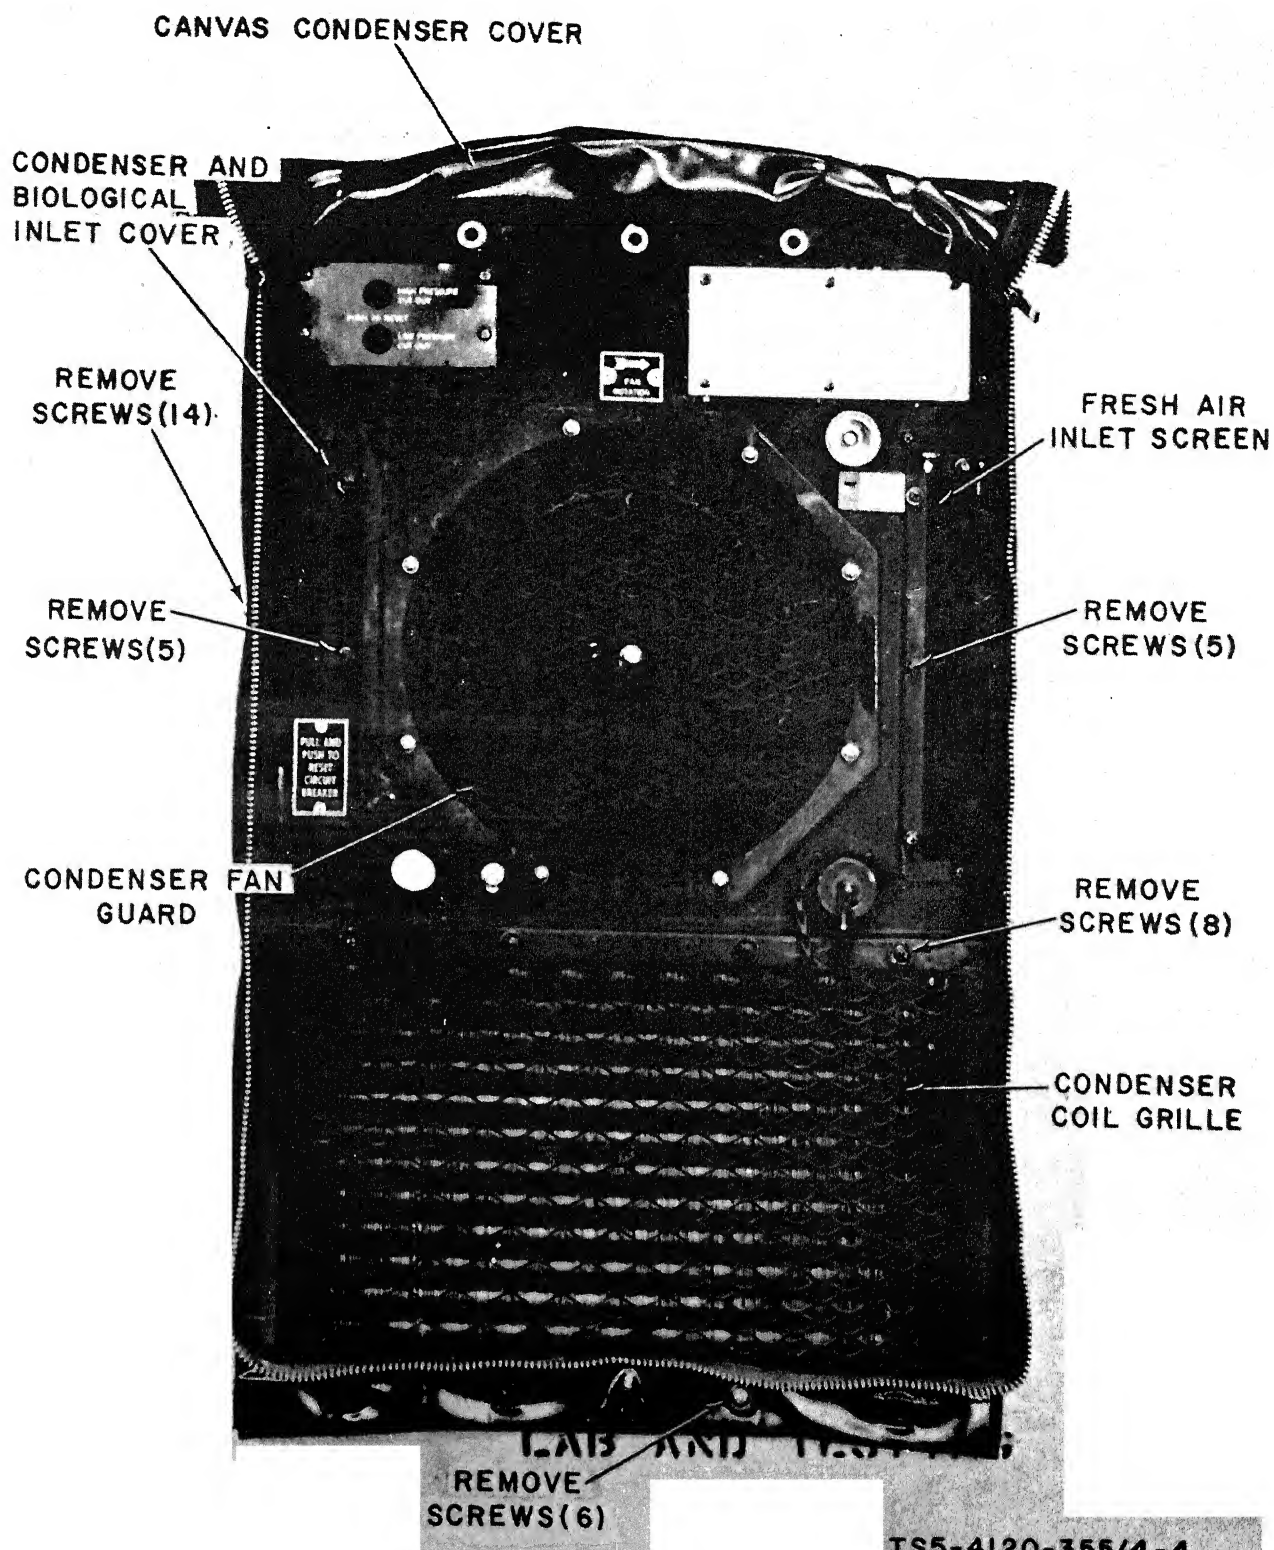

Figure 4-4. Fresh Air Inlet Screen, Chemical and Biological Inlet Cover, Condenser Fan Guard, and Condenser Coil Grille, Removal and Installation.
NOTE: Remove discharge and intake grilles and filter, if unit is to be used with ducts carrying air to and from the conditioned space. Install grilles and filter in the duct. Remove the chemical and biological (CB) inlet cover (fig. 4-4) if a CB filter is to attached to the unit.
- a. **Removal.** Refer to figure 4-4. Remove fresh air inlet screen, CB inlet cover, condenser fan guard, and condenser coil grille.